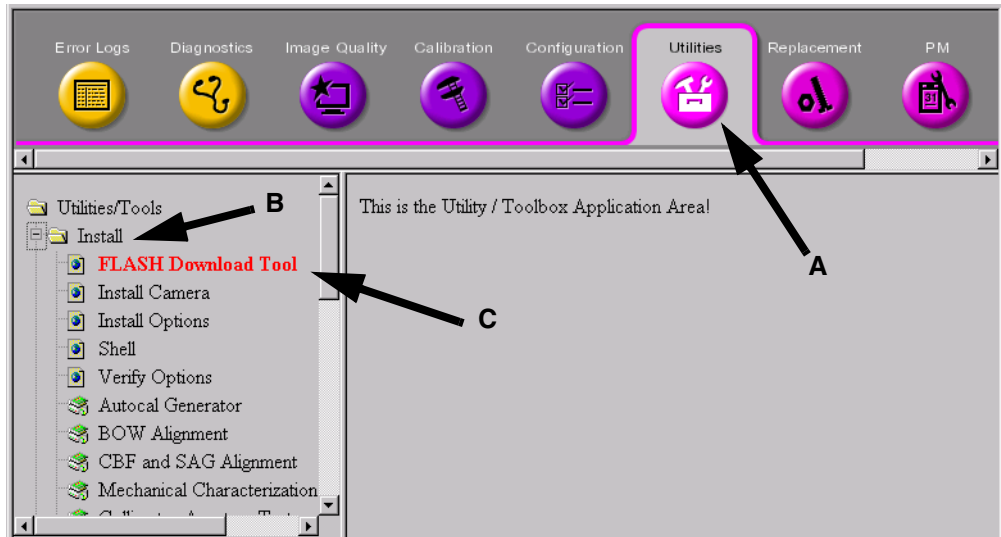

Figure 2-1 Accessing the FLASH Download Tool
- 6.) Refer to Figure 2-1. On the Service Desktop:
- 5.) Refer to Figure 2-1. On the Service Desktop: